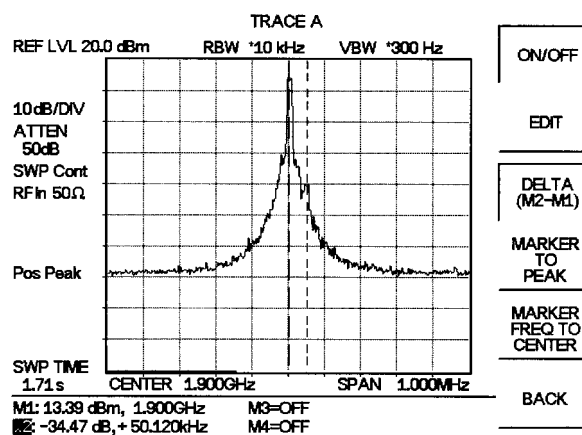

Figure 4-4. Measurement of Two Signals Having Unequal Amplitudes
- Step 6.** Change the frequency in the second source from 1900.100 MHz to 1900.050 MHz gradually and observe the effect. Figure 4-4 shows the results with the two signals spaced 50 kHz apart using a signal combiner/splitter with a loss of 6 dB.